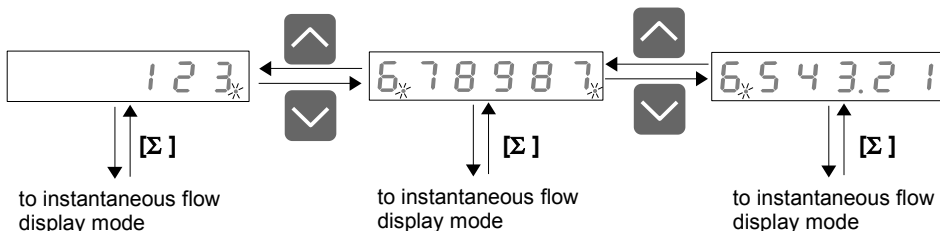

Figure 6.1. Switching between digits (screens) of total flow result.
- while medium digits are displayed both most left and most right decimal points are flashing (Figure 6.1). Most right decimal point signals that result has less significant digits – to see these digits press [v] button. Most left decimal point signals additional more significant digits. Press [^] button to see these digits.